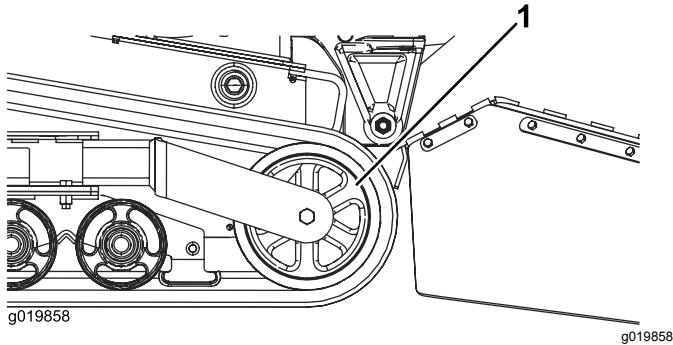

Figure 47
5. Push the tensioning wheel rearward as far as it will go (Figure 47).
7. When the track is off of the tensioning wheel, remove it from the machine (Figure 47).